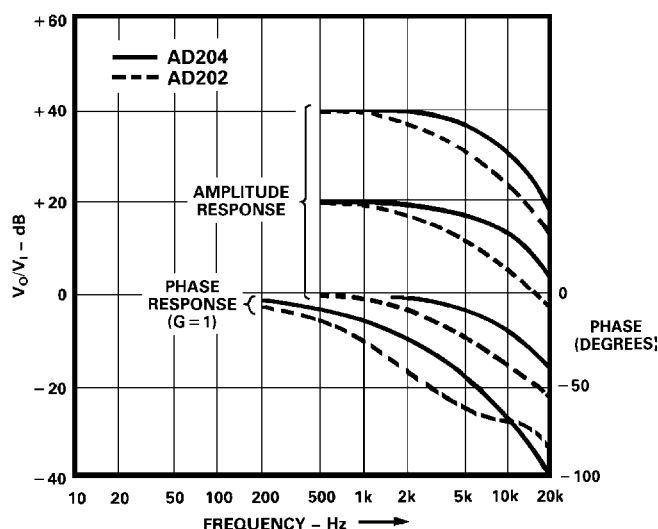

Figure 11. Frequency Response at Several Gains
**Dynamics and Noise.** Frequency response plots for the AD202 and AD204 are given in Figure 11. Since neither isolator is slew-rate limited, the plots apply for both large and small signals. Capacitive loads of up to 470 pF will not materially affect frequency response. When large signals beyond a few hundred Hz will be present, it is advisable to bypass  $-V_{ISO}$  and  $+V_{ISO}$  to IN COM with 1  $\mu$ F tantalum capacitors even if the isolated supplies are not loaded.